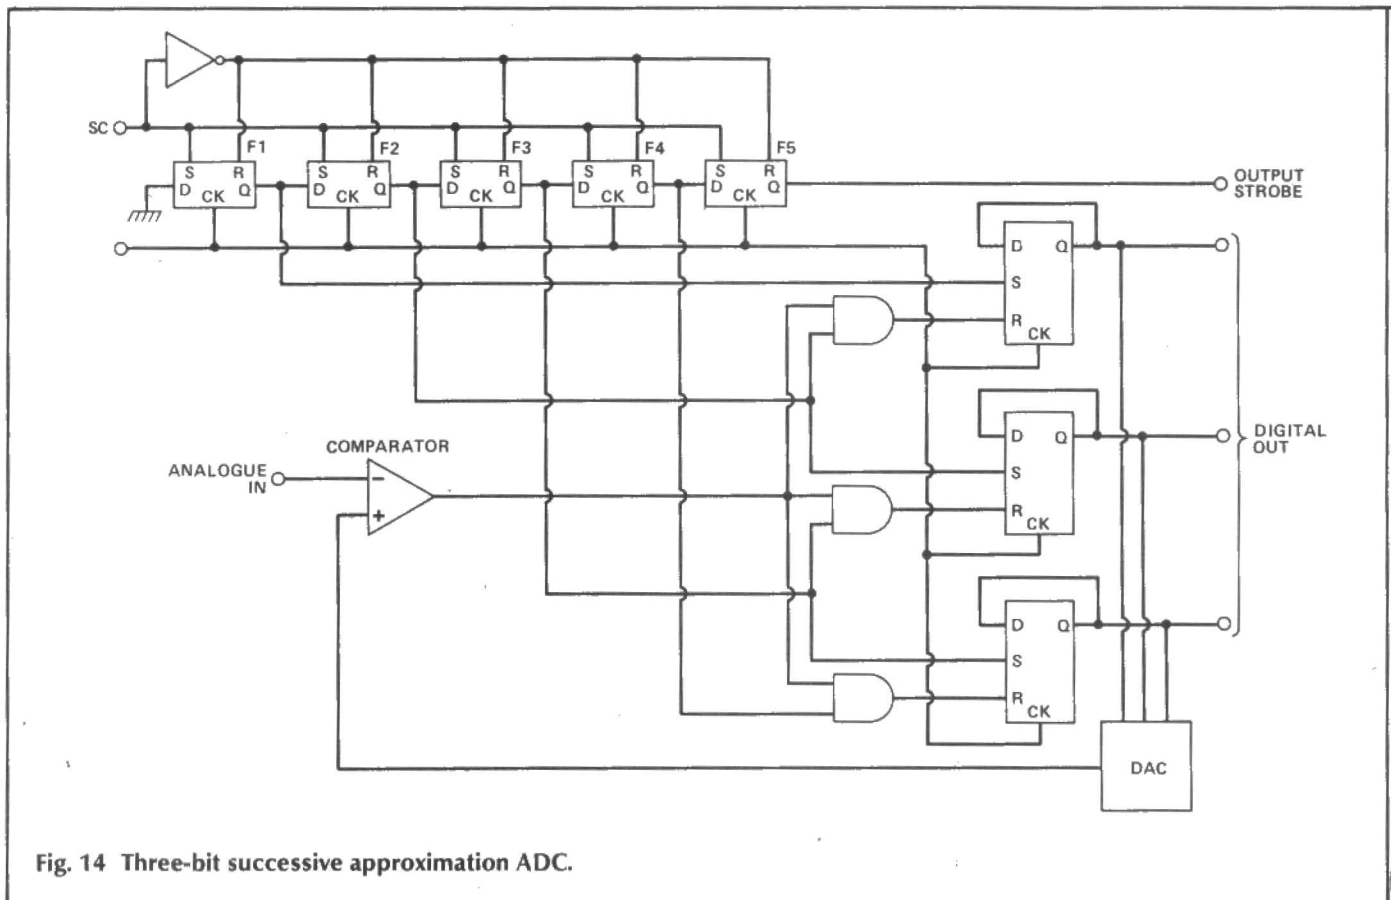

Fig. 14 Three-bit successive approximation ADC.
Typical output impedances for such a voltage regulator IC can be well below 0.1 ohms down to as low as 1Hz. It would require a decoupling capacitor of 1.5 farads to equal this! To ensure proper operation, the output capacitor, C1 in Fig. 14, should be at least 100n. More than 10u is unnecessary.
The basic hardware implementation of a successive approximation (SA) register, using S-R flip-flops, is shown in Fig. 14. The top line of flip-flops is the sequencer, which puts a one in successive code register flip-flops, MSB first. The bottom line of flip-flops is the code register,